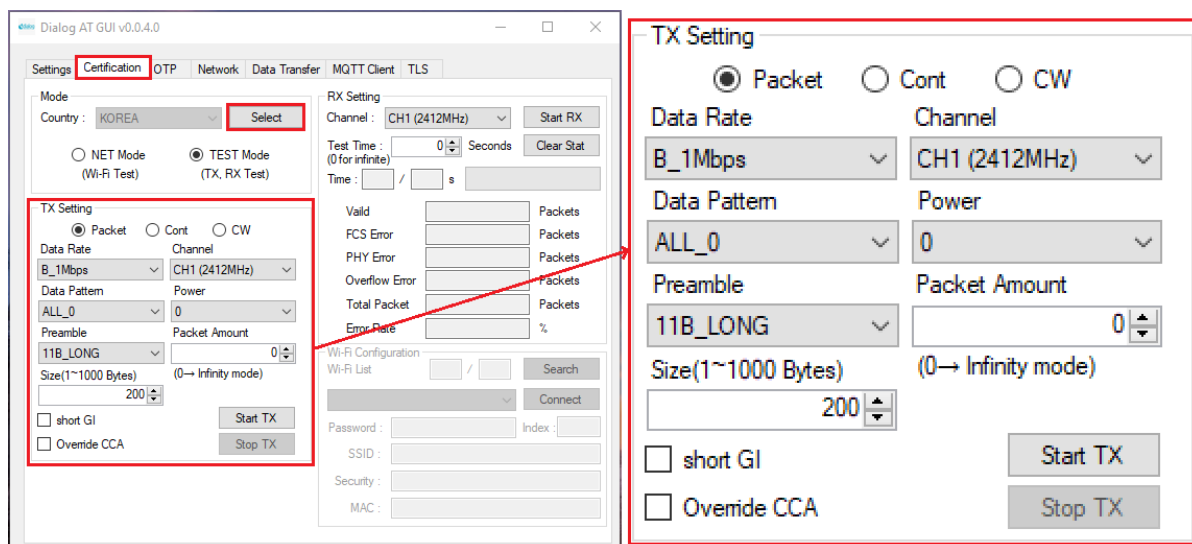
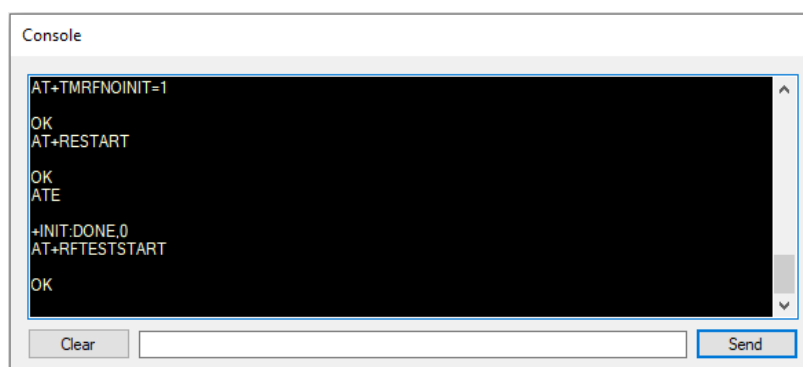

Figure 8. TX setting
Figure 9. Debug console – TX mode
1. Open the **Certification Mode**, see Figure 8.
2. Click the **Select** button under **Mode** (see Figure 8). A confirmation message is shown, see Figure 9. This is a normal state.